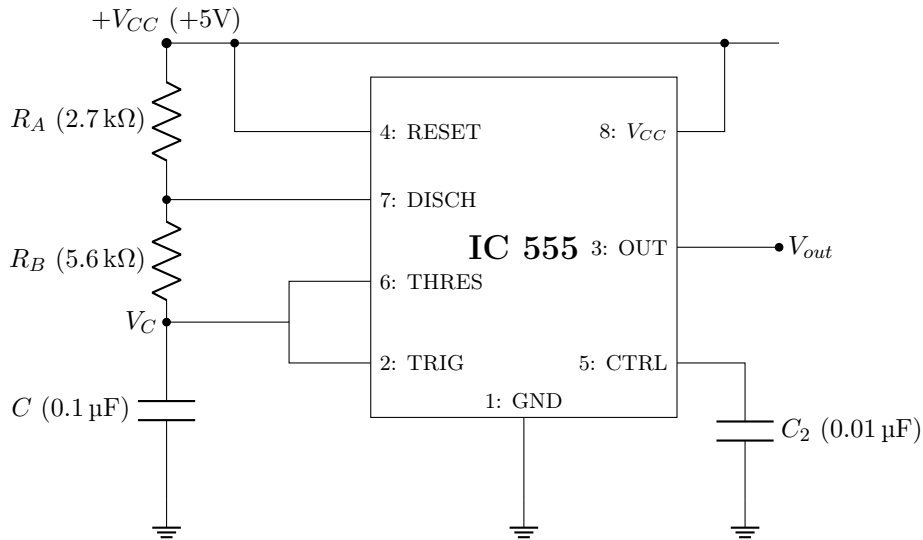

Figure 1.1: IC 555 Astable Multivibrator Schematic
The schematic for the 555 Astable Multivibrator circuit is presented in Figure 1.1.
1. Assemble the circuit on a breadboard using  $R_A = 2.7 \text{ k}\Omega$ ,  $R_B = 5.6 \text{ k}\Omega$ , and  $C = 0.1 \text{ } \mu\text{F}$  according to Figure 1.1.